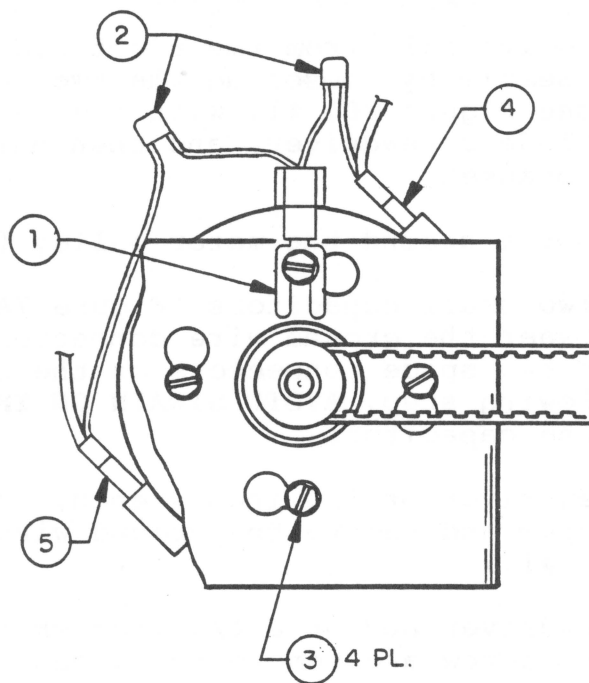

FIGURE 9
- \*13. With a screwdriver and/or a 1/4 inch wrench, remove the four mounting screws holding the carriage drive motor (see Figure 9, #3).
- 6. Reroute the drive belt around the motor pulley (see Figure 9). (Make sure that the smooth side of the belt is on the outside and that the belt goes through the slot in the chassis.)